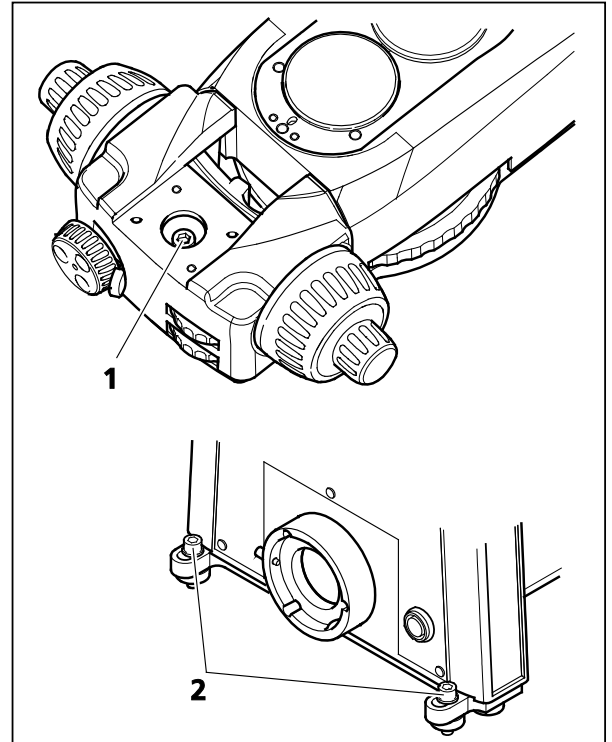

Figure 3-2 Fastening the stand to a tabletop
- Screw in and tighten the screw located inside the upper microscope part (Figure 3-2/1) and the two screws at the rear side (Figure 3-2/2).